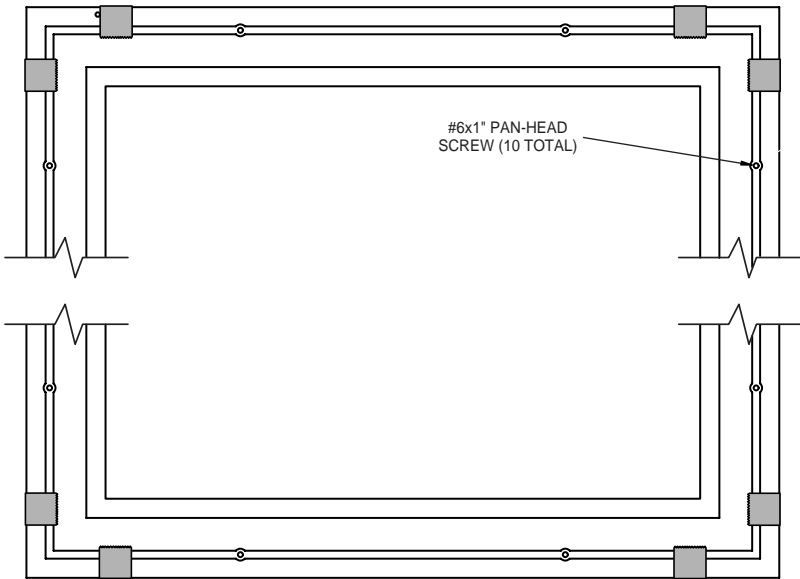

Figure 6
- b. Place door and overlay on a clean flat protective surface. Use the door frame holes as a guide to lightly punch pilot holes for the #6 x 1" pan-head screws (see Figure 6).